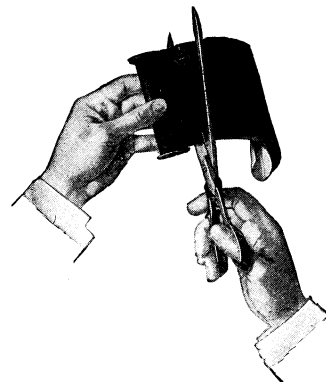

Fig. 2
(A) Cut the exposures apart as shown in Fig. 2.